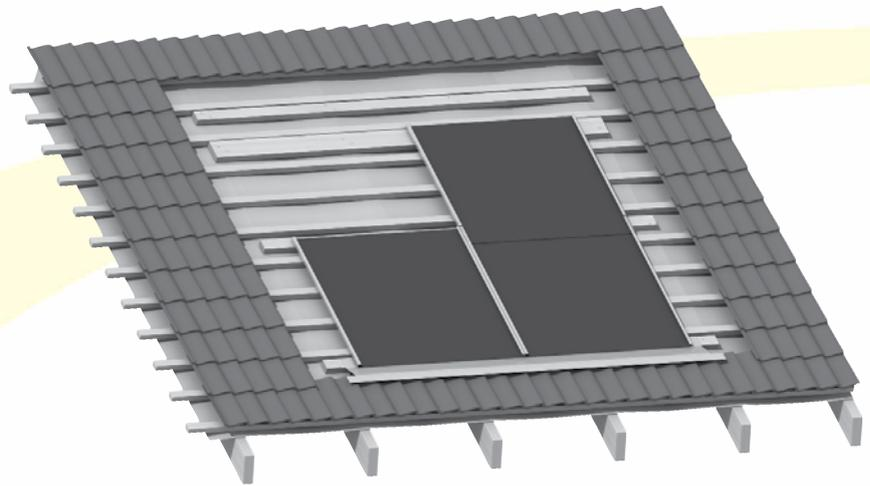
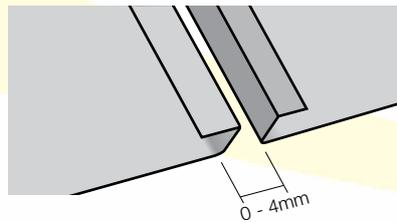

Figure 57a: Installation of First Base Tray
Figure 57c: Maximum Gap Between Base Trays
4. Fit second lower base tray. As with first lower base tray, position it with the lower edge along the fold line of the bottom flashing (or the pencil line in the case of slates). Ensure gap between trays does not exceed 4 mm – see Figure 57c. Fix to lower middle batten as before using a single screw – see Figure 57a.
6. Fit second RH half base tray. As with the first tray, position it with the lower edge along the fold line of the bottom flashing (or the pencil line in the case of slates). Ensure gap between trays does not exceed 4mm – see Figure 57c. Fix to middle batten using one of the self-drilling sealing screws provided in the installation kit at the centre of the upper edge – see Figure 59a.